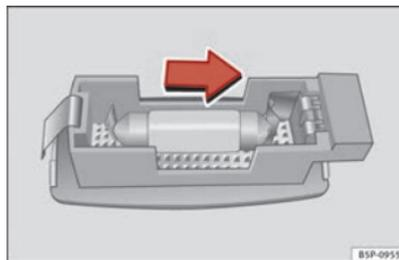

Fig. 207 Removing sun roof light.
- Carefully remove the lamp, using the flat side of a screwdriver, as shown in the figure ⇒ Fig. 207.
- Remove the bulb, moving it in the direction of the arrow and outwards ⇒ Fig. 207. ■